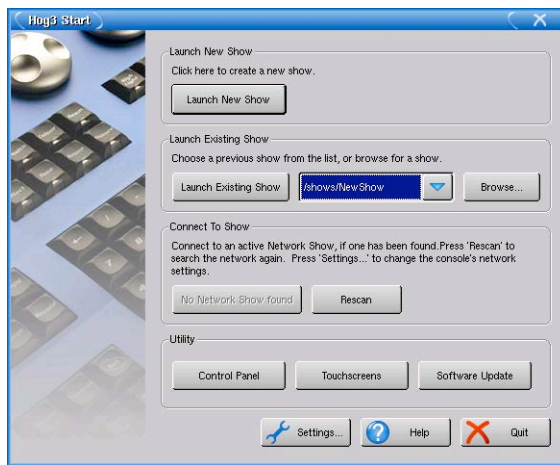

Figure 6.3. The Start Window
1. Once the console is switched on, the Start window will appear (see Figure 6.3, "The Start Window"). Press the Touchscreens button.
The Wholehog III Start window (see *Figure 6.3, “The Start Window”*) gives you the option to Launch New Show, as well as launch existing shows or join one currently running over a network.